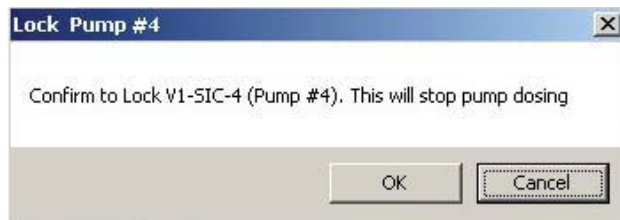

Figure 4.54. Lock Pump confirmation pop-up.
2. Click the icon of the pump to be locked. A confirmation pop-up screen displays (Figure 4.54).